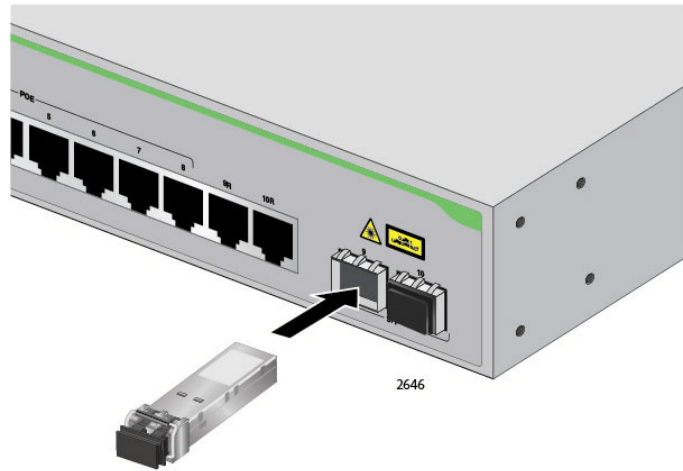

Figure 27. Inserting the SFP
4. Slide the transceiver into the SFP slot until it clicks into place. See Figure 27